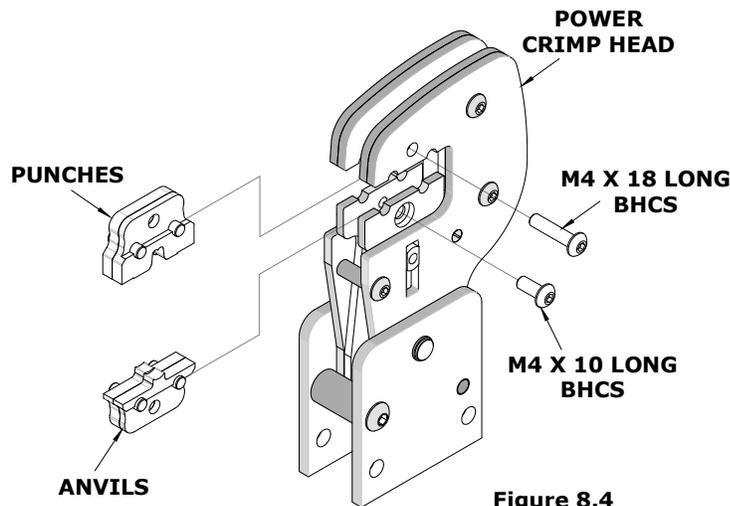

Figure 8.4
2. Insert the punches into the top slots of the nest with wire size markings to the front. Install the M4 x 18 long BHCS, and tighten in place. See Figure 8.4.